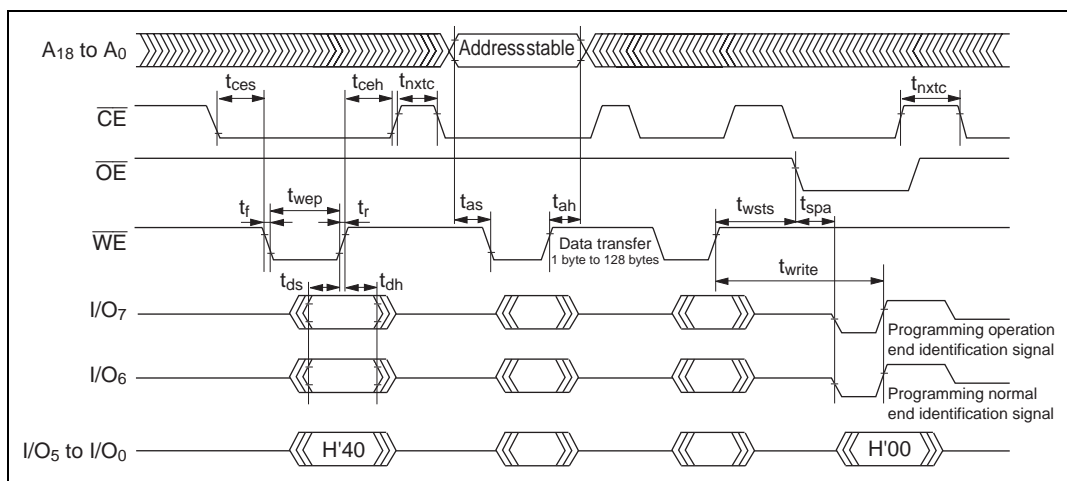

Figure 19.25 Auto-Program Mode Timing Waveforms
- Memory address transfer is executed in the second cycle (figure 19.25). Do not perform transfer later than the second cycle.